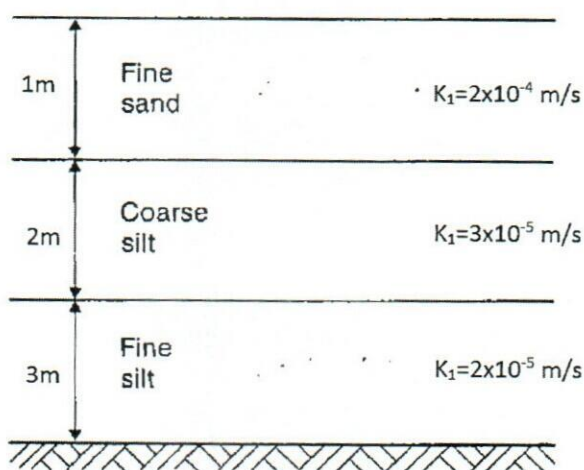

Figure 1
- iii)** A system of three soil layers overlies an impermeable bedrock as shown in **Figure 1**.